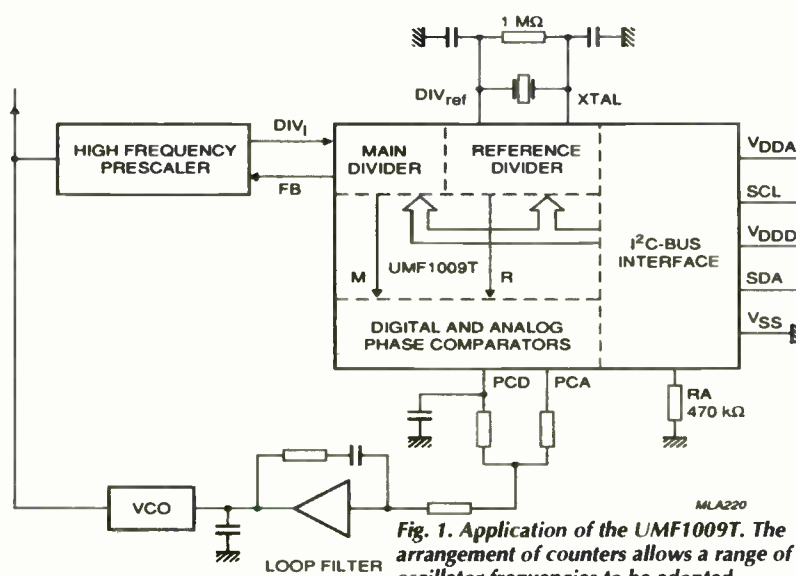

Fig. 1. Application of the UMF1009T. The arrangement of counters allows a range of oscillator frequencies to be adopted.
Fig. 1. circuit diagram of electronic ignition circuit using power mosfet and low-inductance coil. The IC is a 556 (dual 555) operating as a charge pump to provide gate drive voltage for the IRF740 power switching transistor
Figure 1 shows a practical ignition circuit with a built-in test oscillator  $R_{1,2,3}$ ,  $C_1$  and part of the IC to give a 50Hz, 50% duty cycle pulse to the base of  $Q_2$  when  $S_1$  is open.  $Q_1$ ,  $D_{2,3}$ ,  $C_{6,7}$  and the rest of the IC form a gated charge pump to keep enough gate voltage on  $Q_6$  at low battery voltages
**Fig. 1. Functions of the AD534, a four-quadrant IC multiplier with an accuracy associated with hybrid devices. The device uses the Gilbert technique, shown in Fig. 1, in which X, Y and Z inputs are converted to currents, trimmed for zero offset, the products of X and Y currents.**
There is a differential Z input and all the standard multiplication, division, squaring and square-rooting functions are possible, with no input/output polarity limitations, current output being allowed, if required. The device uses the Gilbert technique, shown in Fig.1, in which X, Y and Z inputs are converted to currents, trimmed for zero offset, the products of X and Y currents being multiplied using Gilbert's translinear technique which is described in the Analog Devices Non-linear Circuits Handbook.